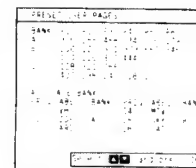

Fig. 39.
- 7 Select the programme position for which you want to preset pages with + or - and press OK. (See Fig. 39)